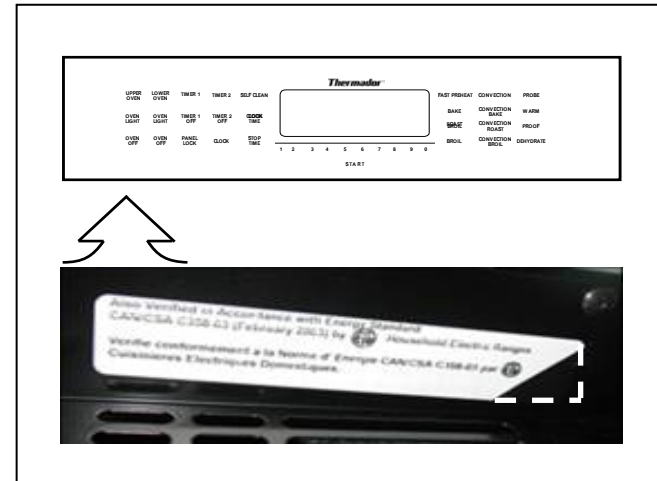

Figure 3
10. Cut and remove corner of energy data tag as shown in Figure 3 to indicate that unit has been tested and PASSED.